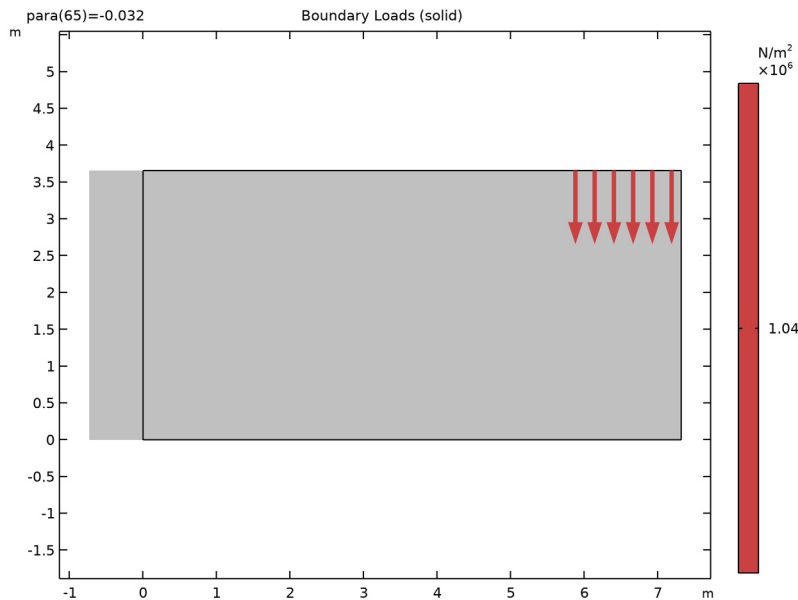

Figure 2: Boundary load applied to model the footing pressure
- The stratum is subjected to a footing that you can consider to be flexible and smooth. The width of the strip footing is 3.14 m, see Figure 2. Gradually increase the footing pressure until the clay layer reaches the collapse load.